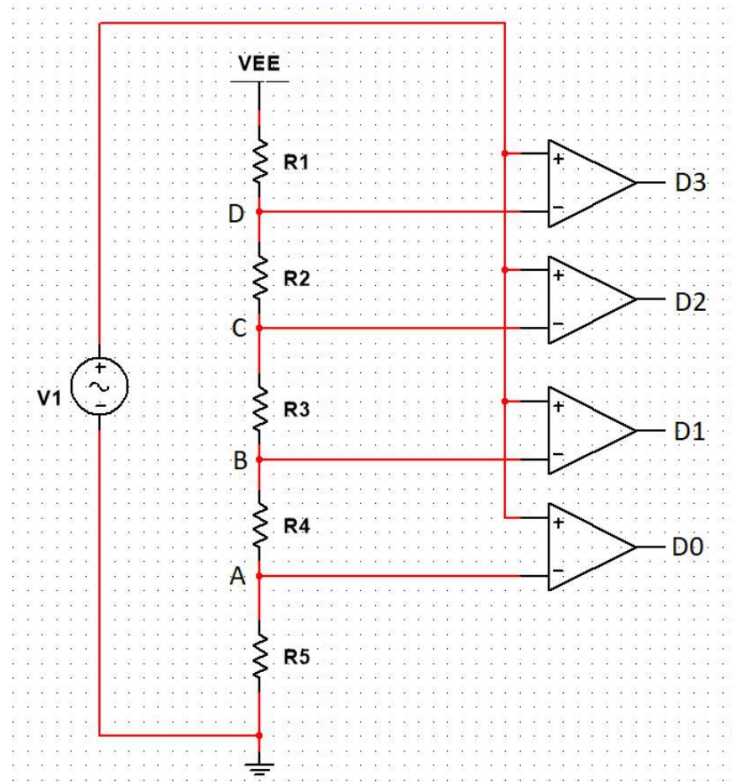

FIGURE 2.2 2-bit Analog-to-Digital Converter
- Use an electronic simulation software (ask the assistant for a copy of Proteus 8.8 if you don't have it) to construct and design 2-bit ADC as shown in Figure 2.2 by showing the values used for resistances and voltages at points A, B, C and D.
1. Construct the ADC as in figure 2.2 by using the quad Op-Amp IC LM324